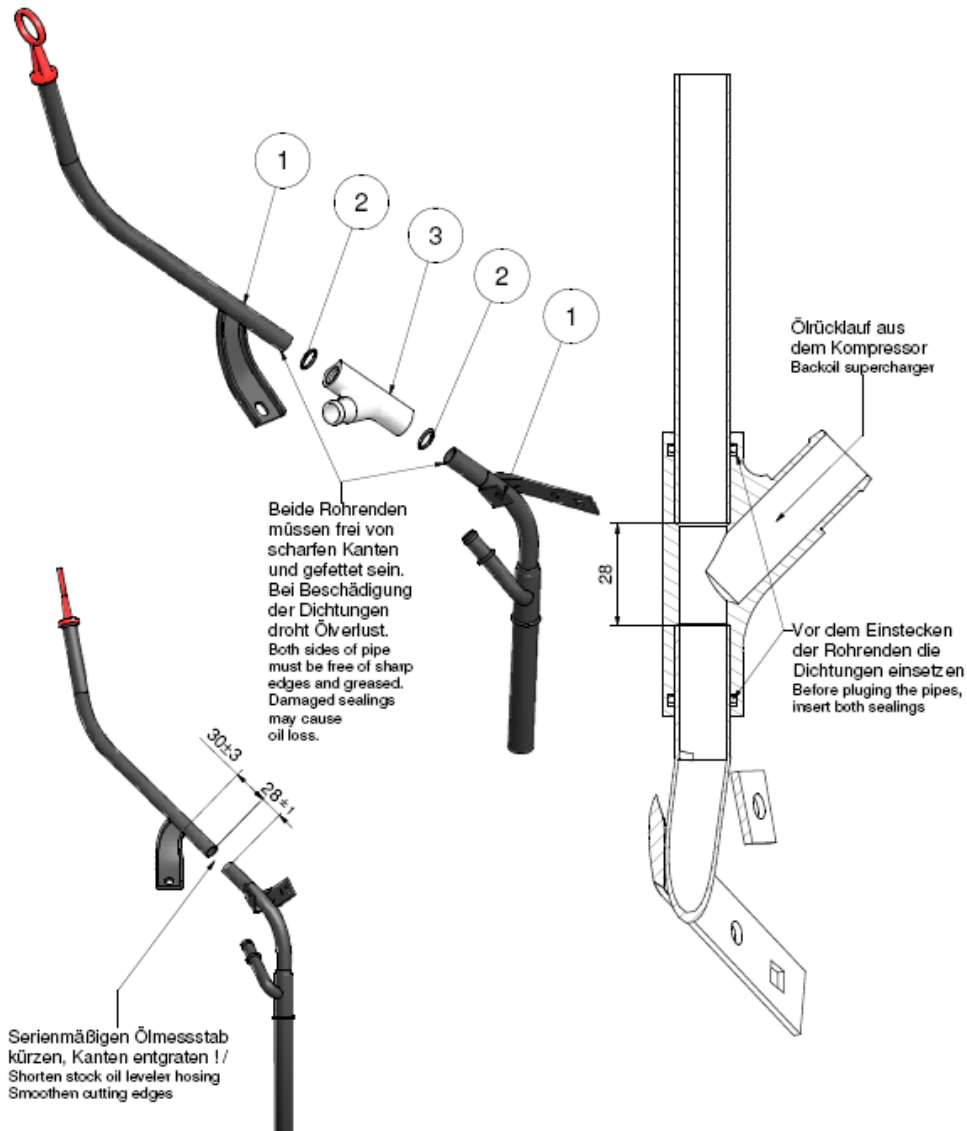

Figure 17
34. Before cutting the dipstick tube check again if the oil dipstick was pulled out, otherwise you will cut it! Cut the tube like mentioned in drawing P341-53-07 (Figure 17). Remove all swarfs thoroughly after handling.
36. Add grease and put the parts together like shown in Figure 17. Do not install the dipstick in the engine at this moment.
7. Attach the oil return hose from the compressor to the return input of the dipstick tube (Figure 17) and secure it with a hose clamp. If necessary, shorten this hose a bit and make sure that it does not rub against other components. The hose between the compressor and oil pipe must also be constantly falling, otherwise, the engine oil can't drain from the compressor!